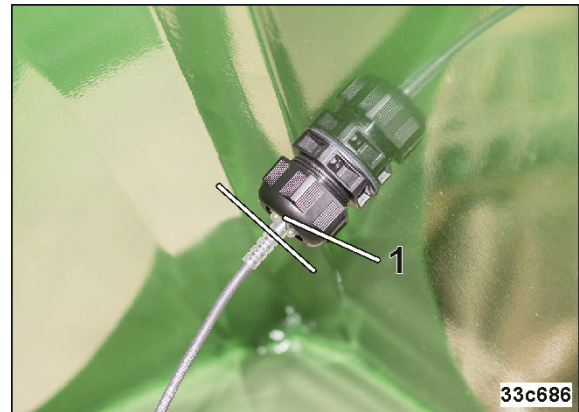

Fig. 141
4. Insert the fill level sensor into the holder until the cable output fits flush in the holder (Fig. 141/1).